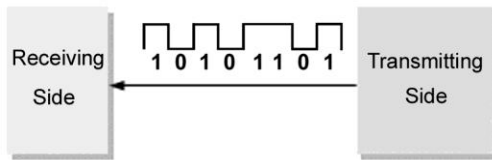

Figure 14-4 Data transmission for question 38.
38. Figure 14-4 illustrates an example of _____ data transmission. 38._____